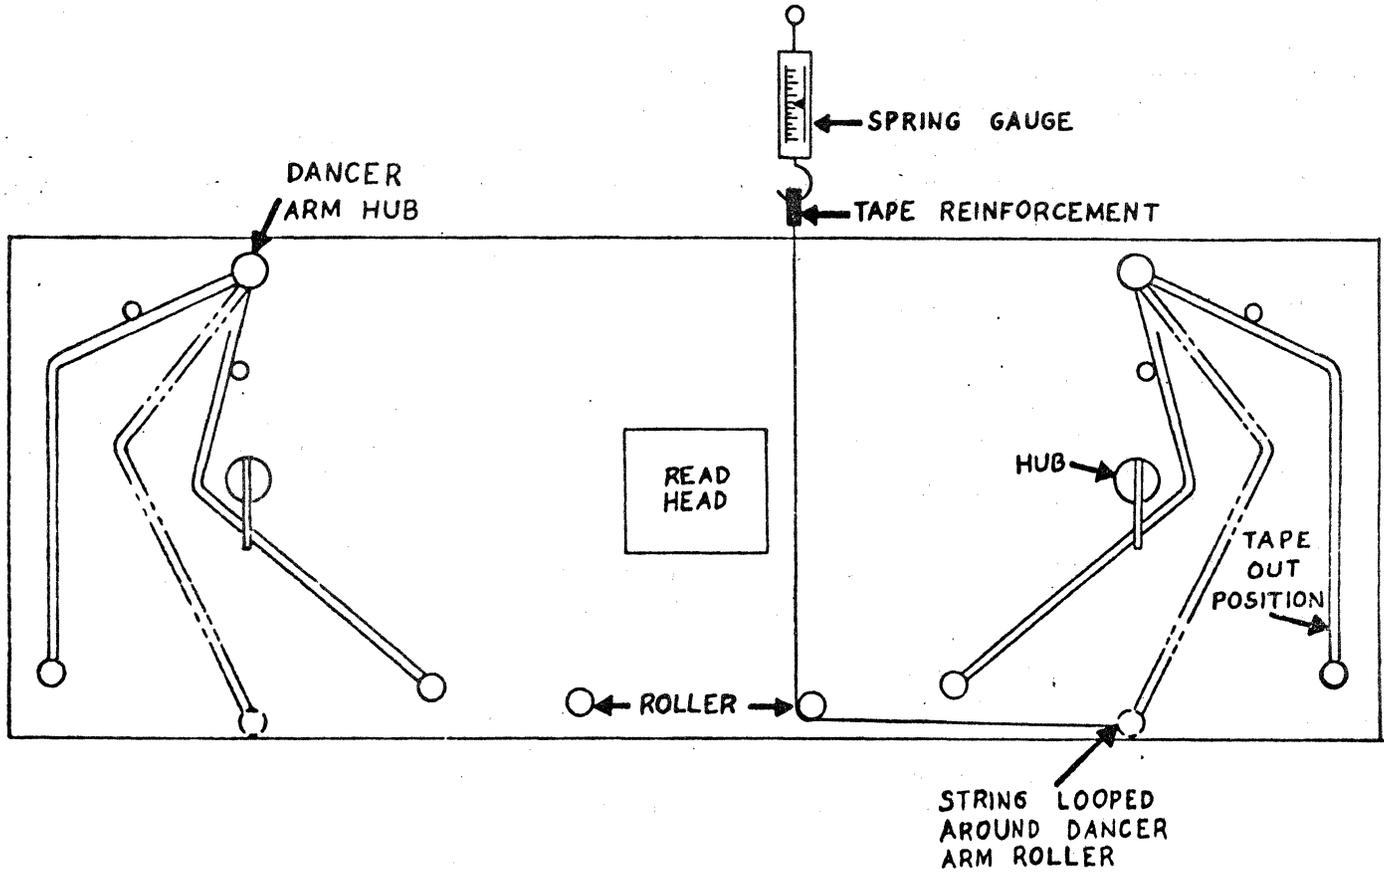

Figure 1. Spring Tension Test Arrangement
2. Adjust both dancer arms so the lower portion of the arms are vertical as shown in the tape out position (Figure 1).
3. Move each dancer arm in slowly and release slowly and observe any friction that may cause the arms to bind. If there is any doubt, add a 3.7 oz. weight at the end of a thread looped over the roller and connected to the dancer arm. A 3.7 oz. weight should pull the arm in towards the center at least half way (Figure 1). With a 0.24 oz. weight in place of the other, the dancer arm should return to the tape out position. A spring gage may also be used as shown in Figure 1.
4. Using a feeler gage, check the dancer arm shaft end play. There should be a minimum of 0.002 in. between the front shaft bearing and the dancer arm hub. (Figure 1).
1. Refer to Figure 1 and adjust both dancer arms as shown in the tape out position. The lower portion of each arm should be vertical.